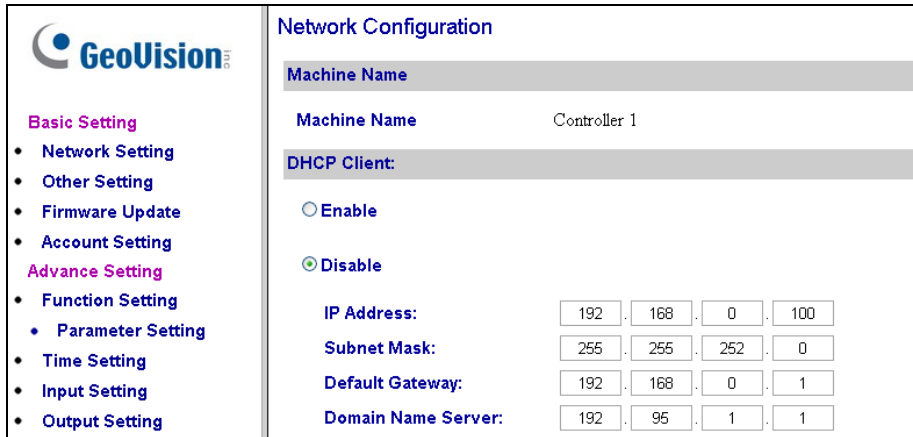

Figure 10-2
5. Open the browser and enter the assigned IP address of the controller. The Network Configuration page appears. See Figure 10-2.